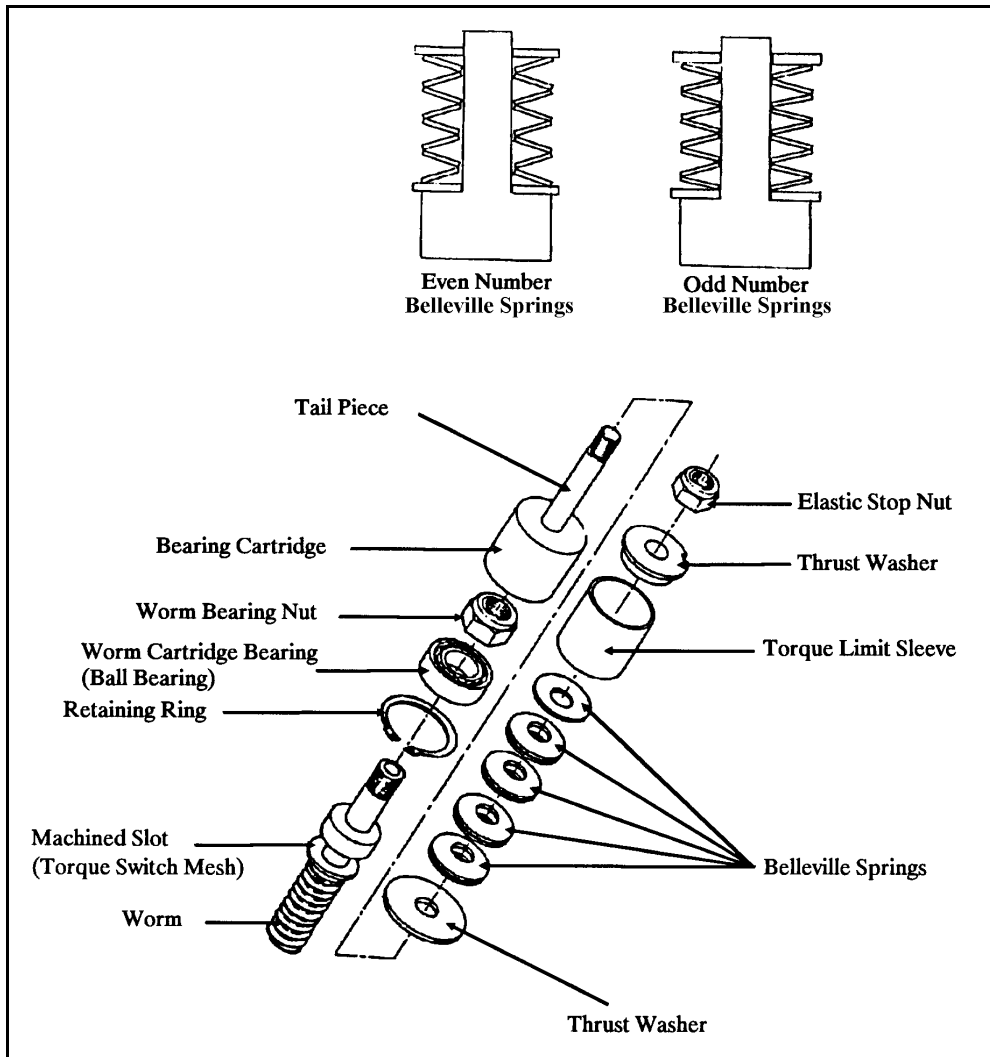

Figure 4-34 Worm and Belleville Spring Pack
Refer to Figure 4-34 and Table 4-1
* Denotes Spacer Within ** New Spring Packs Have Different Belleville Spring Dimensions *** Discontinued + Referenced From Initial Contact of Plastic Stopnut With Thrust Washer (Figure 4-34) ++ Thrust Washer Making Contact With Shoulder of Tail Piece
16b. Worm Disassembly/Reassembly Refer to Figure 4-34 or 4-35
3. Install the Belleville springs in the sequence as found in the orientation as shown in Figure 4-34.